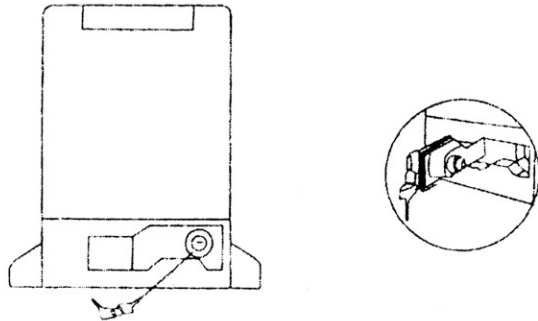

Fig.6
Manual operation (see Fig.6)
- * Release the gear with the key and push the sliding gate manually to pre-determine the position, fix the block to the rack and lock the gear by push up the release bar. (Fig.6) Moving the gate electrically, adjust the block to the proper position until the position of the opening and closing meet the